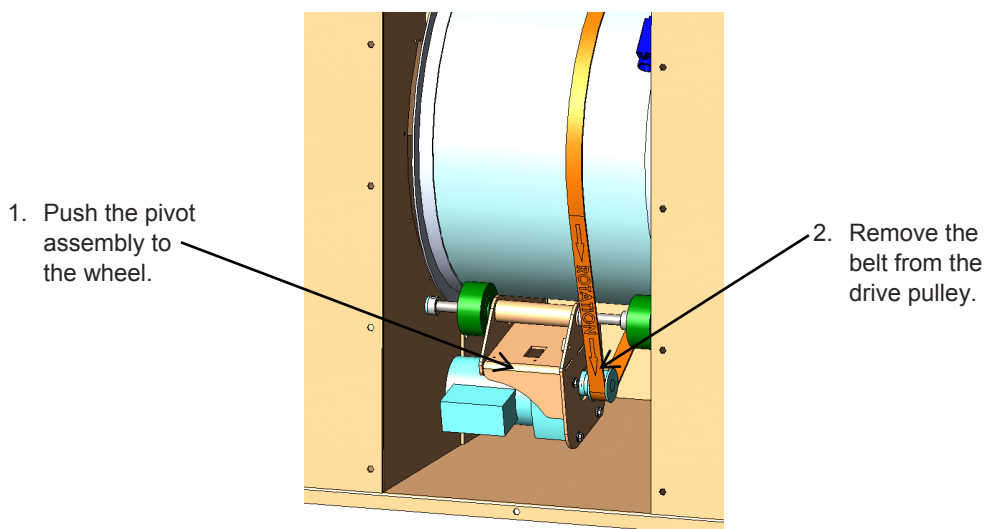
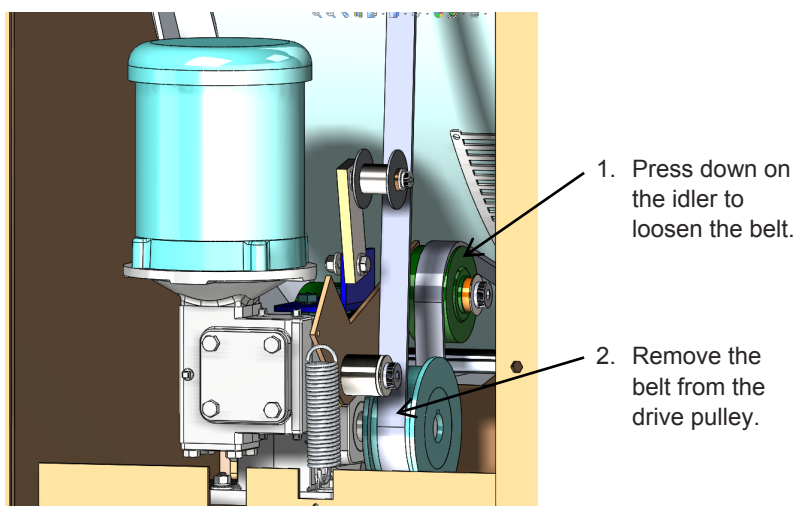

Figure 6-3
Figure 6-4
3. At the front of the machine, press down on the idler roller. See Figure 6-3 and Figure 6-4. This will release the tension on the drive belt. Remove the drive belt from the drive pulley.
1. The HoneyCombe® wheel is supported on four wheels. See Figure 6-3. Remove the front and rear access panels so the wheels can be accessed.